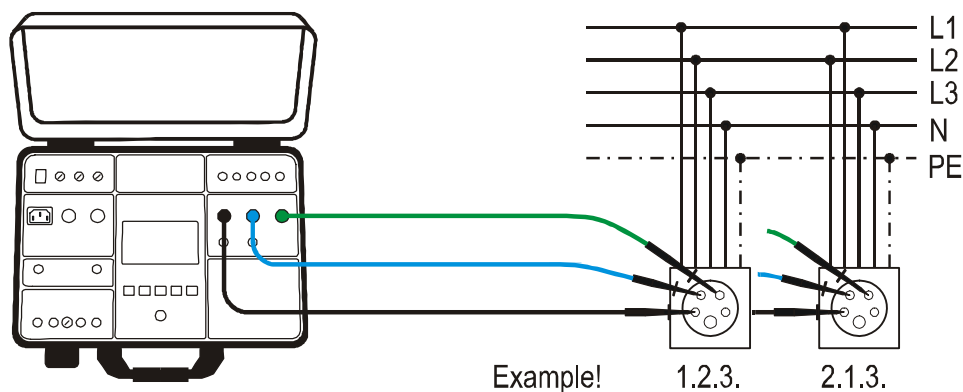

Figure 40: Connection of test leads in PHASE SEQUENCE measurement
- 6) Start the measurement by pressing the **START/STOP** button. The measurement will start to run and will be stopped after pressing the **START/STOP** button again. Measurement result will be currently displayed in green colour if it is lower than or equal to set limit value or in red colour if it is higher than set limit value. Final result will be equipped with green symbol and with beep-beep sound if it is OK or with red symbol and with longer beep sound if it is not OK. See the display outlook with test result on the figure 40.